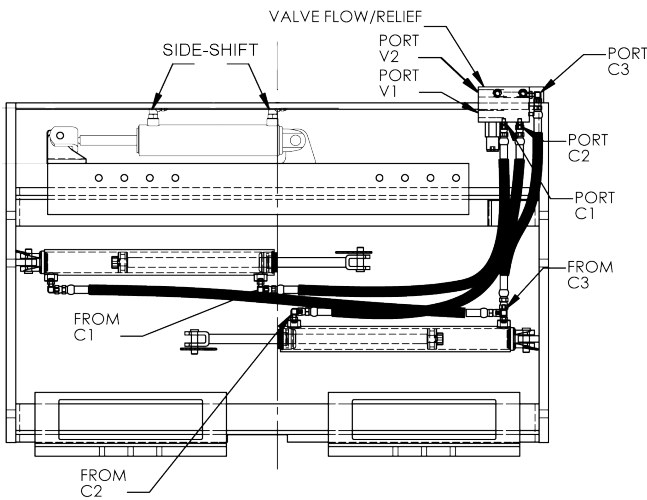

Figure 6-1, Hydraulic Connection
2. Disconnect the hydraulic connection for the attachment positioning at the hydraulic valve, ports V1 and V2. (Figure 6-1)